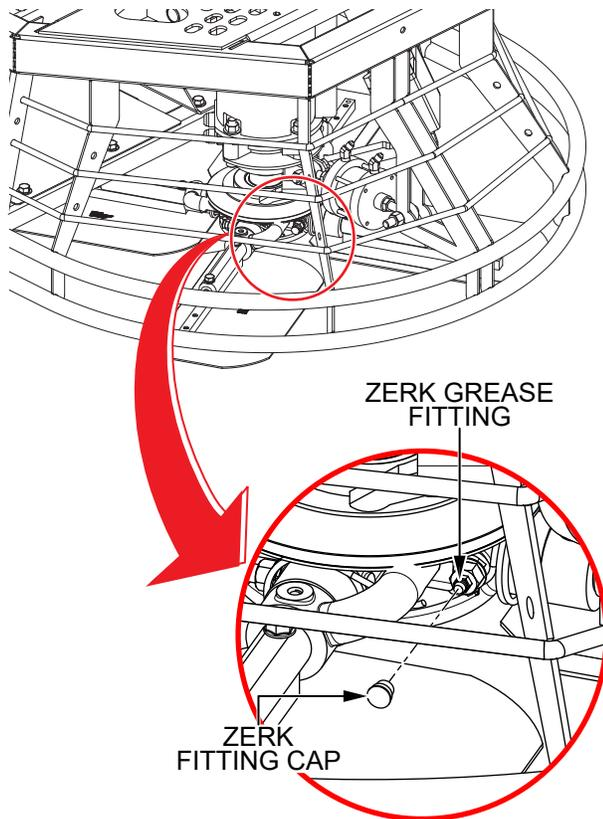

Figure 48. Spider Lubrication
1. Locate one of the **Zerk grease fittings** (Figure 48) on either spider assembly. Remove the **Zerk fitting cap** and set it aside.